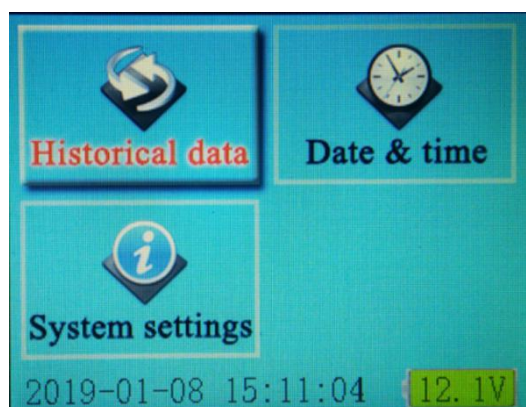
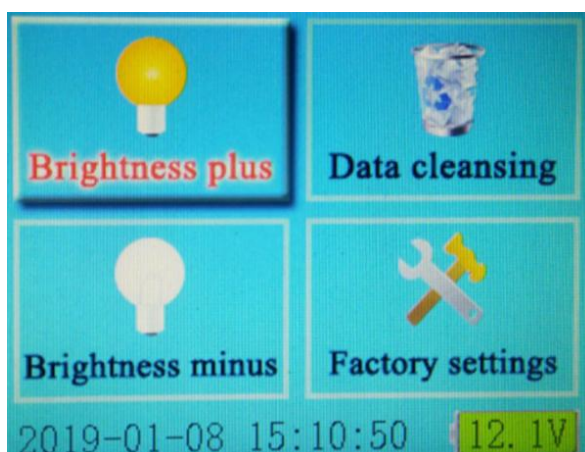

Figure 2
Figure 6
4) In figure 2, press the loop key to move the cursor to the clock modification, and press the select key to enter the clock modification interface.
5) Move the cursor to the host parameters in figure 2, then press the select key to enter the interface as shown in figure 6: